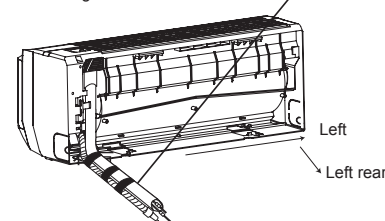

Fig.8
(2) Take out the piping from body case, wrap the piping electric wire, water pipe with tape and pull them through the piping hole (as show in Fig.8)